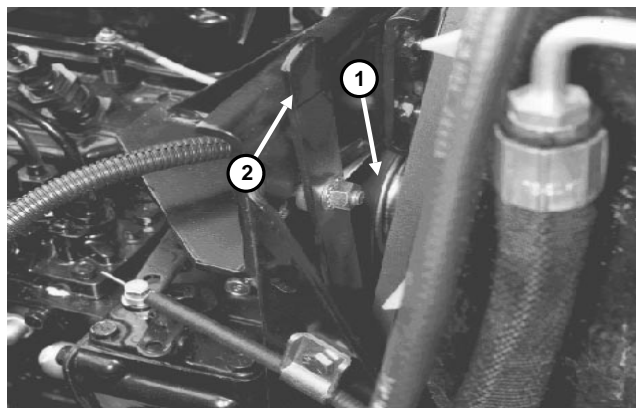
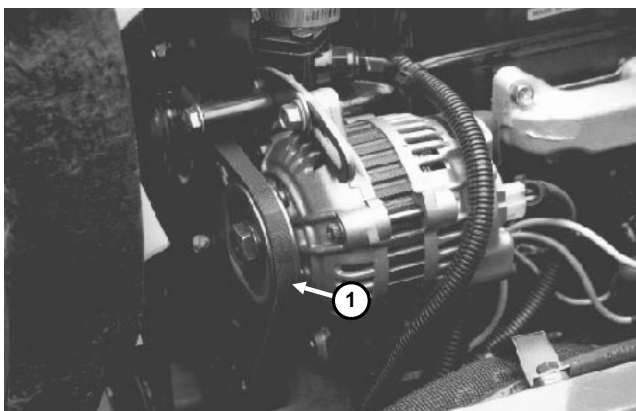

Figure 24a
Figure 24b
2. Loosen locknut on belt tensioner lever (Fig. 24a). If replacing alternator belt, loosen bolt securing alternator brace to engine and bolt securing alternator to brace (Fig. 24b).